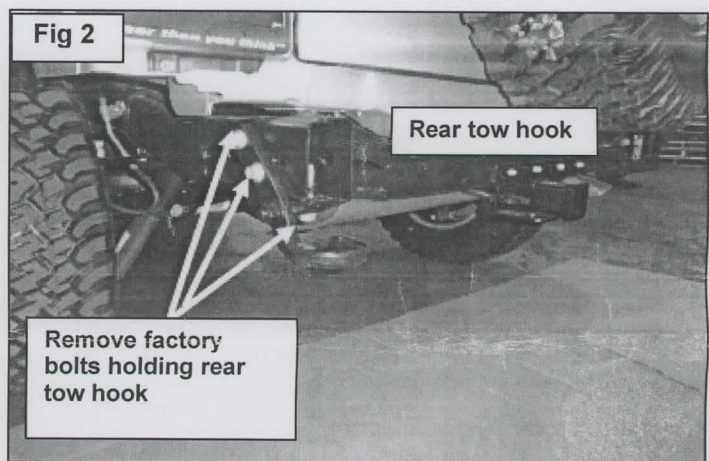
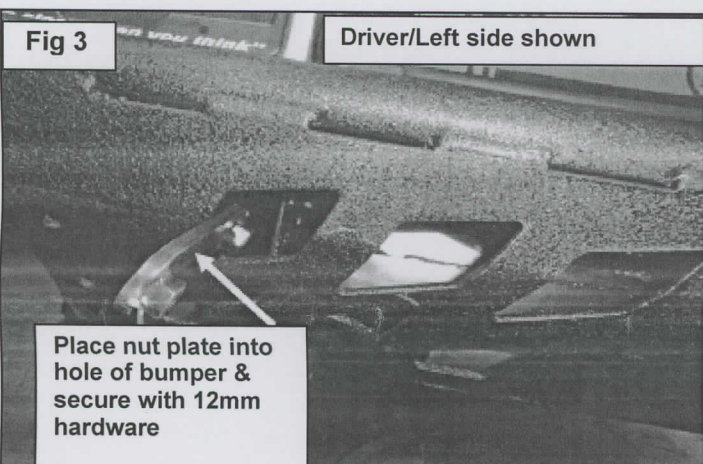

Fig 3
Fig 3A
4. With help, Select the new Center Bumper section and place it up and into place securing it to vehicles frame by placing the 12mm nut plate through the opening of the Aries bumper up & into place securing with (2) 12mm hex bolts, (2) 12mm flat washers and (2) 12mm lock (**Fig 3**) shows Driver side nut plate inserted into frame rails. Repeat for Passenger/Right side, Snug but do not tighten hardware. (**Fig 3A**) shows Driver/Left side bumper secured to nut plate with 12mm hardware.